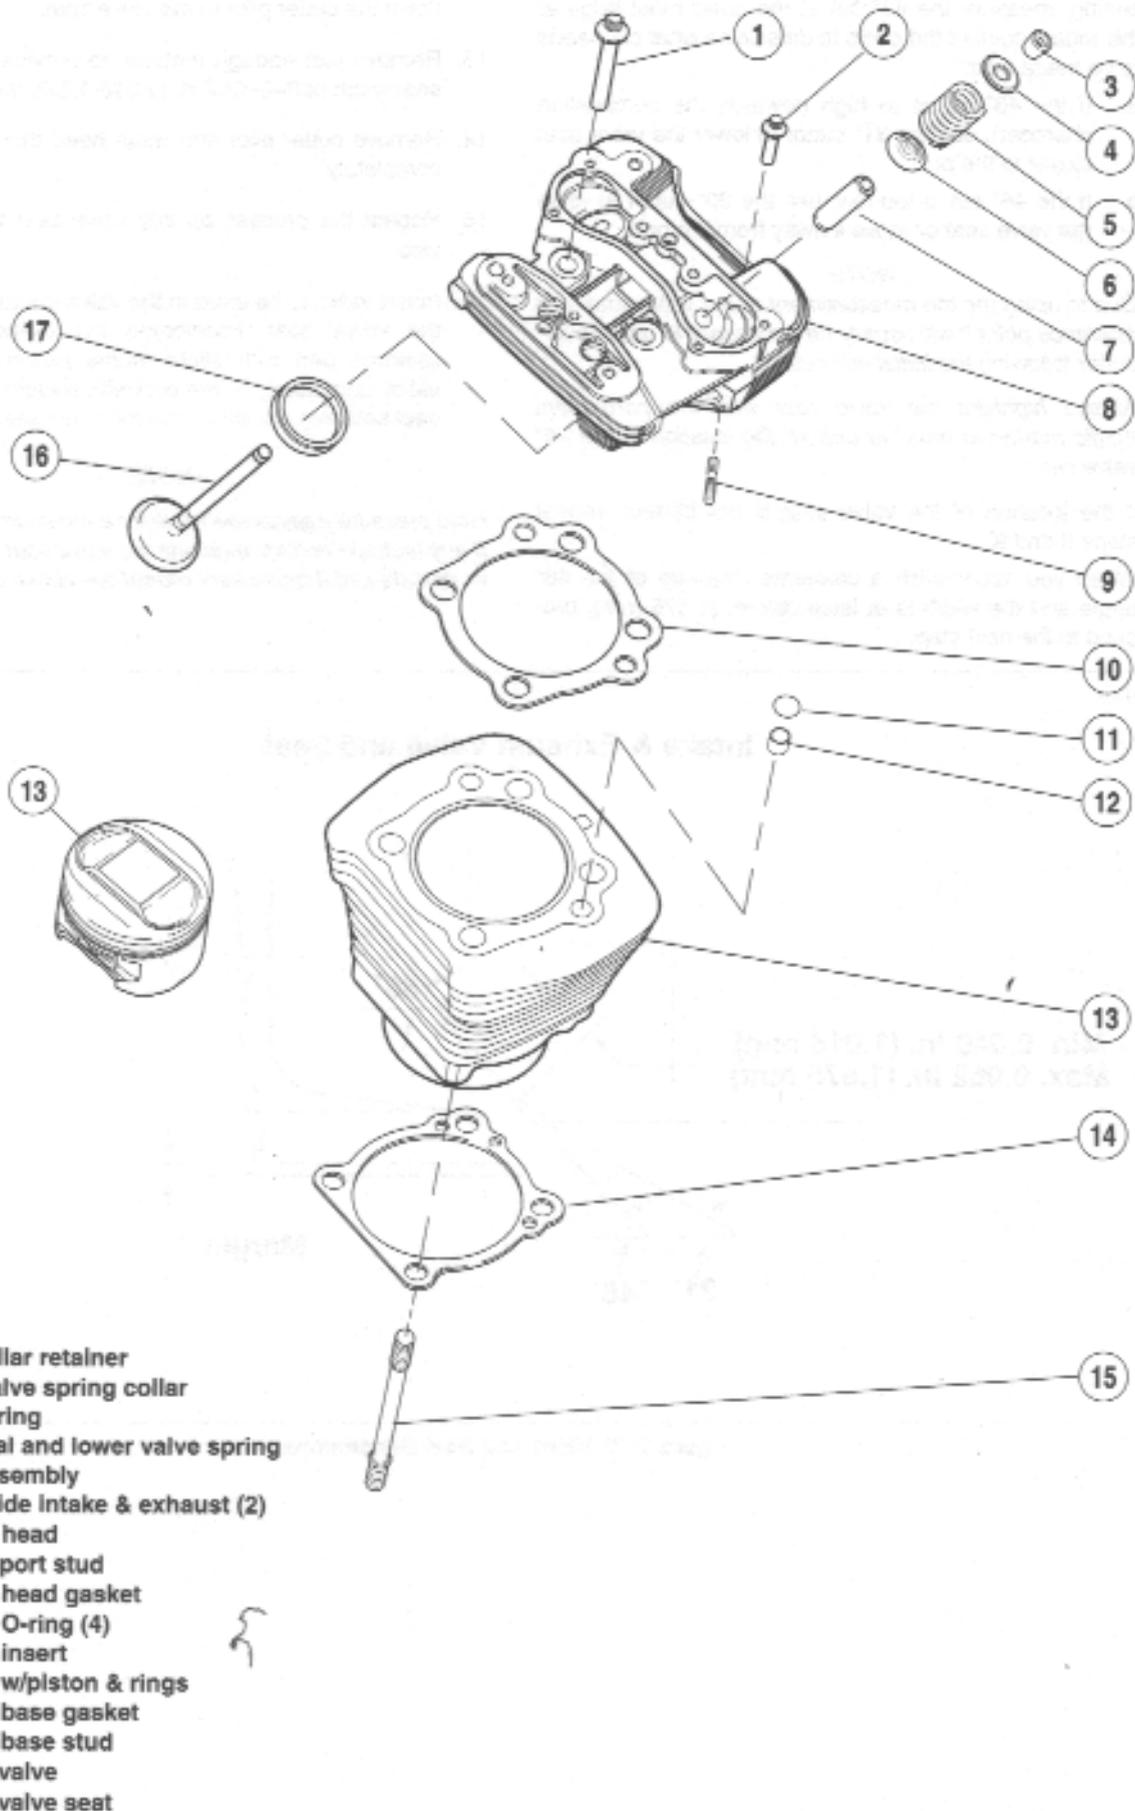

Figure 3-80. Cylinder Head, Cylinder and Piston Assembly
5. See Figure 3-80. Insert valve into valve guide and bottom valve on valve seat.